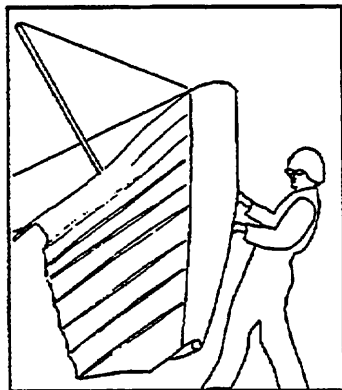

Figure 21
9) Spread the wings all the way and check all cables for any twisted thimbles or tangled cables. Make sure that the right side bottom side wire is not caught on the VG activation lever. (Figure 21, 22)